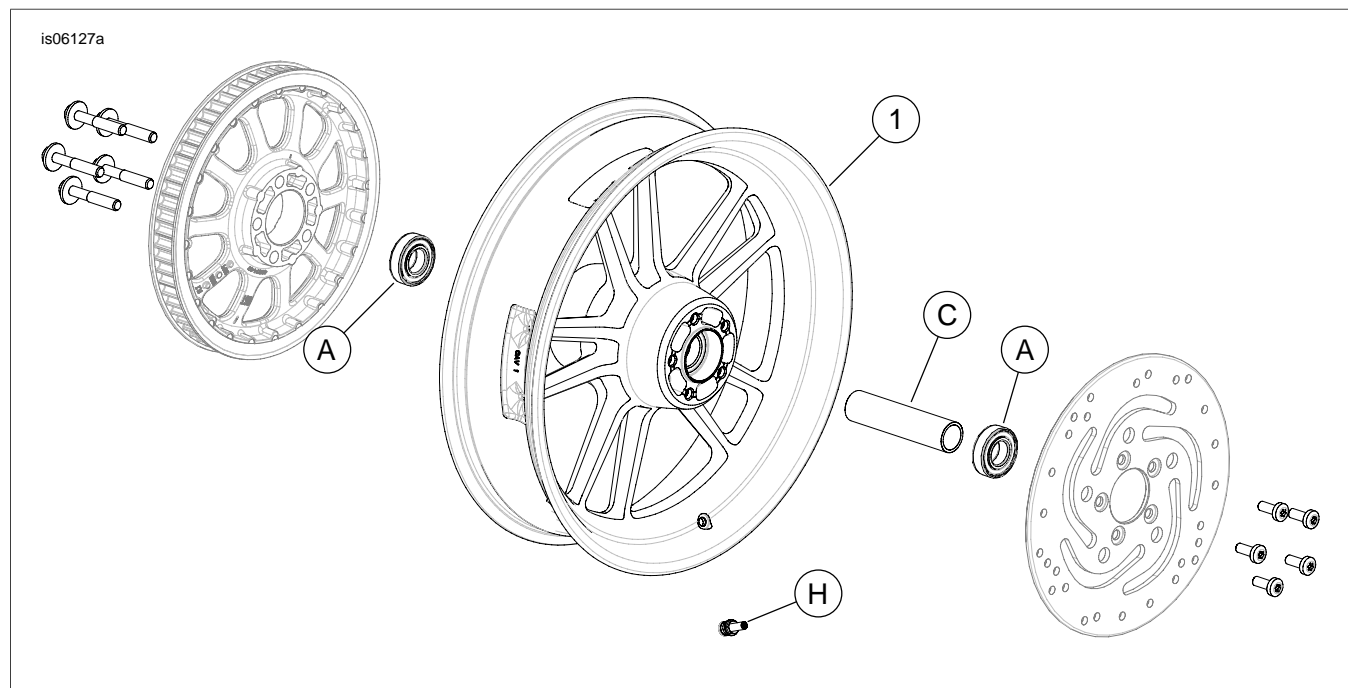

Figure 1. Service Parts: Rear Switchblade Wheel (17 inch shown)
See Figure 1 and the Service Parts Tables.
2. See Figure 1. Install valve stem assembly (H) on wheel. Refer to the service manual.